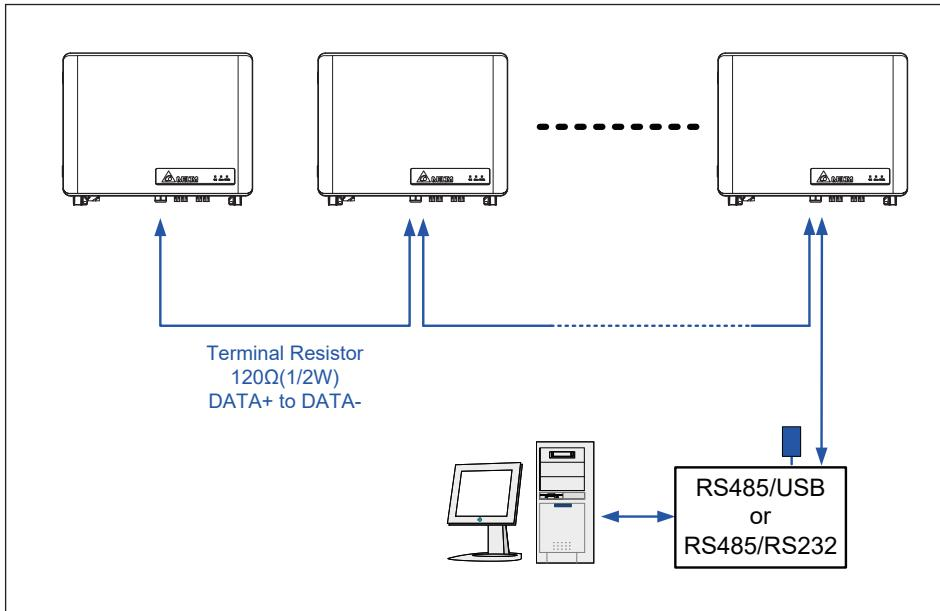

Figure 3-18: Multiinverter connection illustration
- When multiple inverters are cascaded (i.e., "daisy-chained"), only the last inverter in the chain must have its bus termination resistor switched ON.(**Figure 3-18**)